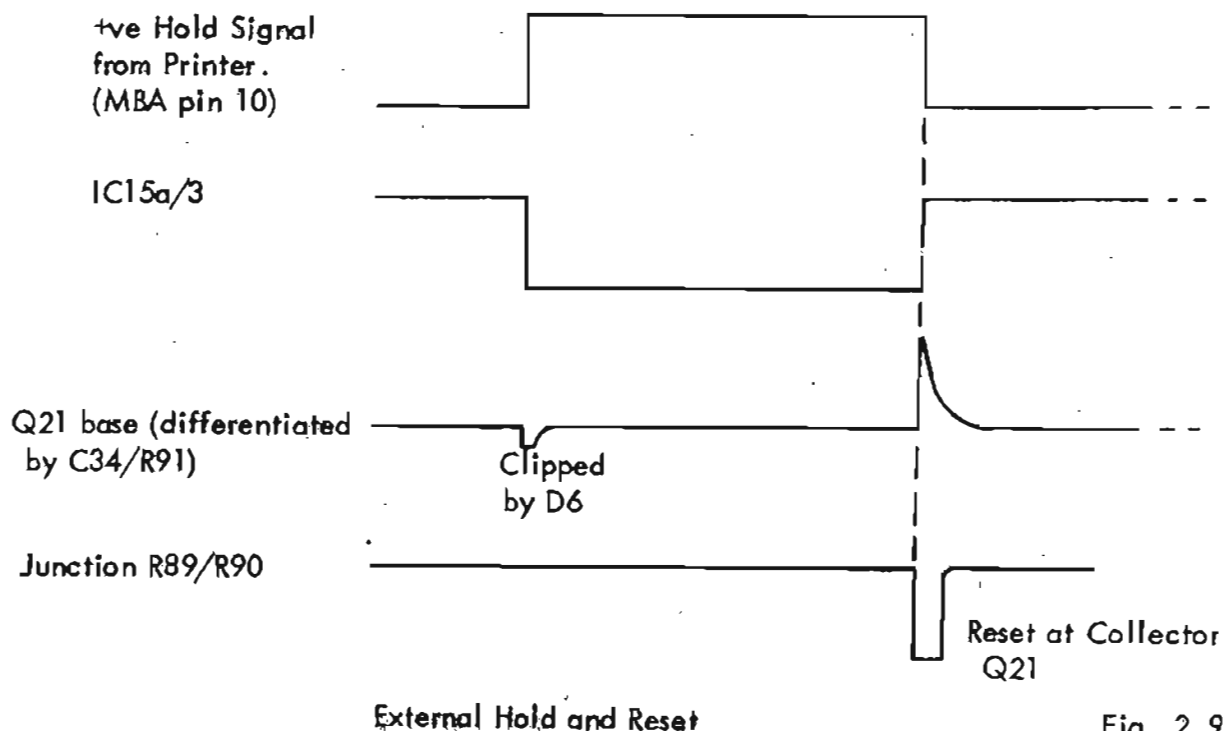

Fig. 2.9
4.43 On receipt of a Command pulse from the Control Circuit the data recording device (printer) will commence to print and at the same time will generate a 'Hold' signal which is applied to the instrument via pin 10 of the Motherboard. This inhibits any further measurement until the printer has recorded the data just received. At the end of the 'Hold' period the instrument is released to commence a new measurement. To avoid the unnecessary delay which would occur if the Display Time Generator were allowed to complete its cycle, provision is made for an artificial reset via IC15a with C34 and R91, the waveforms being shown in Fig. 2.9, below.